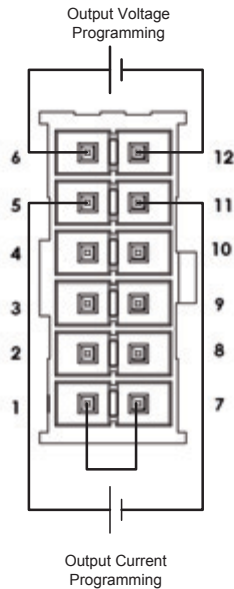

Fig.6-1: J1-Remote Voltage Programming Connection
1. For Voltage Analog Programming wiring refer to Fig.6-1.